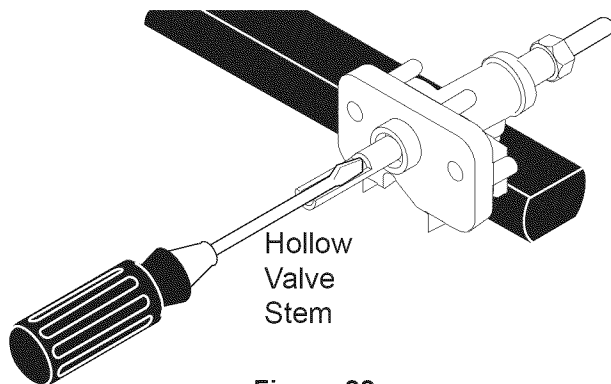

Figure 22
- Insert a thin-bladed screwdriver into the hollow valve stem and engage the slotted screw inside. Flame size can be increased or decreased with the turn of screw. Turn counterclockwise to increase flame size. Turn clockwise to decrease flame size (Figure 22).